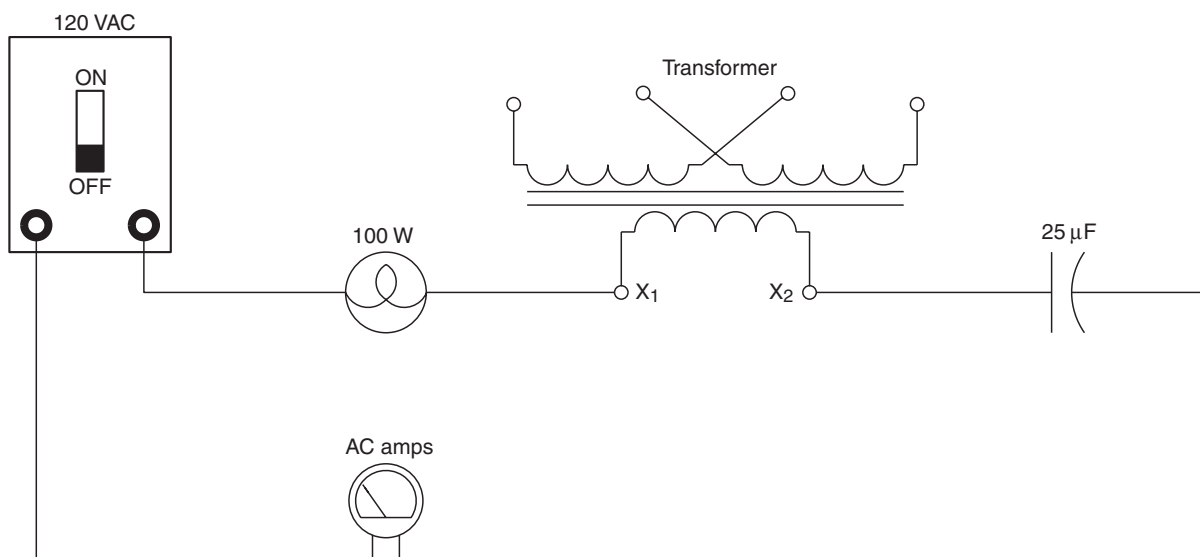

Figure 16-6 Connecting an RLC series circuit.
1. Connect the circuit shown in Figure 16-6.